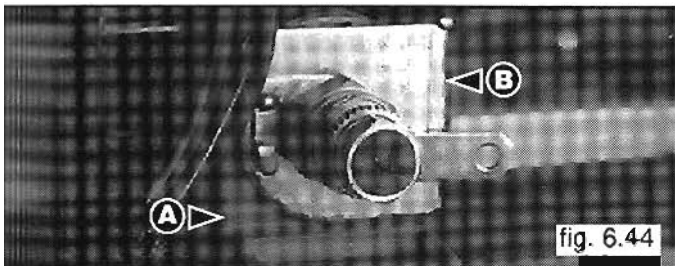

fig. 6.44
- 5 Slide the coil "A" and its housing from the valve ( see fig. 6.44 );
- 6 Remove the plate "B" ( see fig. 6.44 );